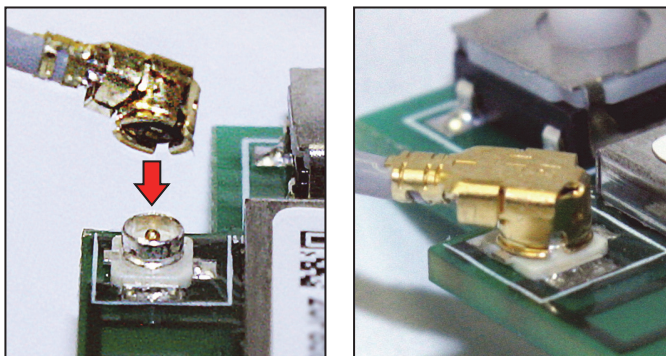

Fig. 2: Antenna Wire Plug
2. Insert the very small **Antenna Wire Plug** into its socket on the **SLE-WIFI-MODULE** PC board and press until the plug snaps in place and freely rotates but remains connected (Fig. 2). **Important:** Handle this wire with care; do not twist, create sharp bends or apply excessive force.